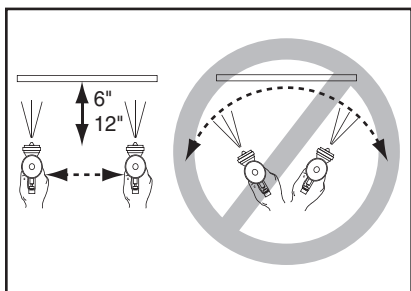

Figure 7. Spray technique.
9. Keep the gun tip perpendicular, parallel and 6-12" from the work at all times when spraying, as shown in **Figure 7**. Do not allow your wrist to bend. This will cause the gun to arc across the surface and distribute the material unevenly, possibly creating sags and dry spots.